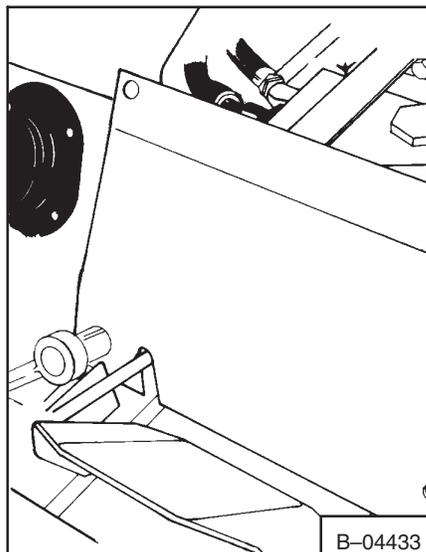

Fig. 3-3 Removing Front Panel
3. Remove the front panel (Fig. 3-3).
7. Install the center shield and tighten the bolts (Fig. 3-3).